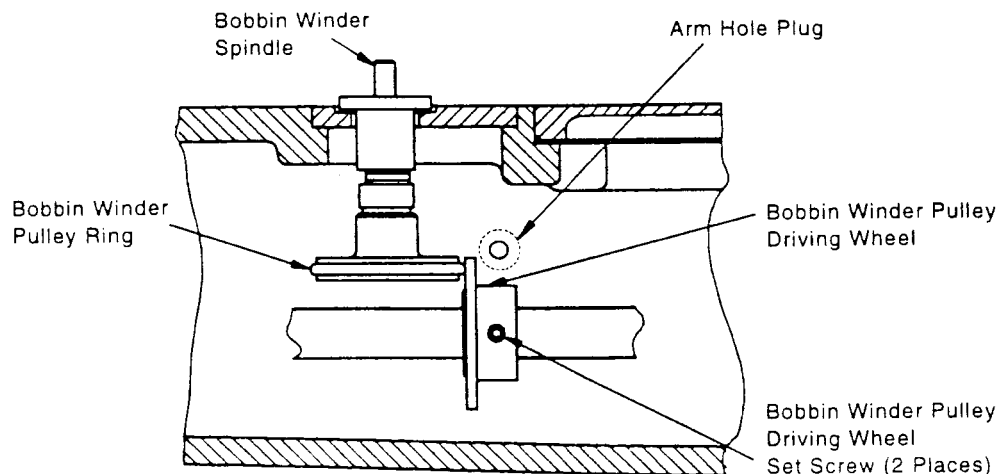

Fig.33
4. Engage bobbin winder for thread winding, turn machine pulley and check that bobbin winder pulley is properly in contact with bobbin winder pulley driving wheel to rotate the bobbin winder spindle. If adjustment is necessary, remove arm hole plug and using a hexagonal wrench through this access hole, loosen the two set screws in bobbin winder pulley driving wheel and move driving wheel to left or right, as required, then tighten the two set screws. (Fig. 33)